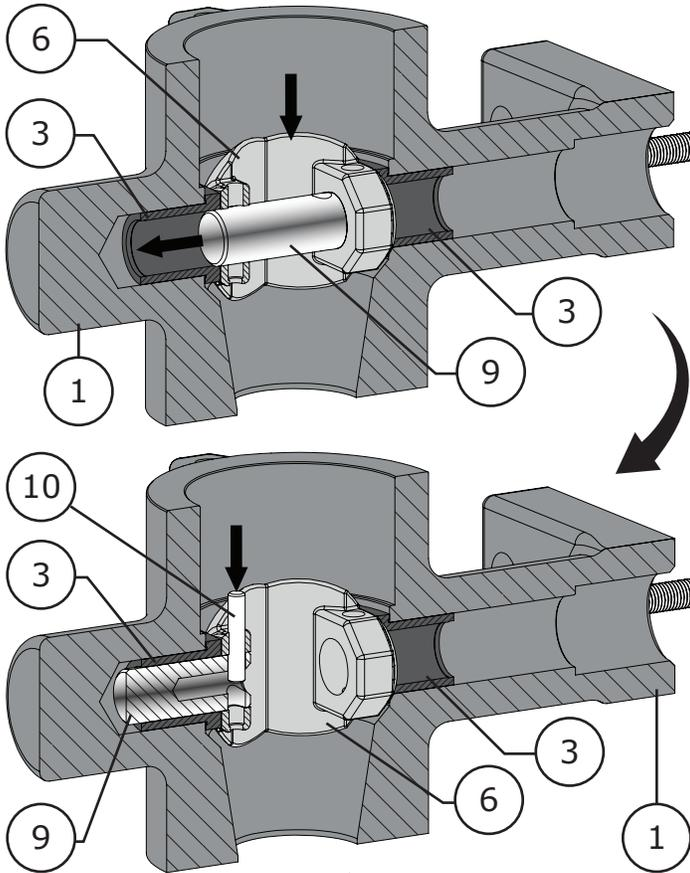

Figure 38 1 to 1-1/2 Inch Ball/Follower Shaft Installation
- 2 Insert the ball/follower shaft assembly (Keys 6 & 9) in to the valve body (Key 1) and position the ball so that the follower shaft can be pushed in to the outboard bore of the valve body. Try to align the pin holes of the follower shaft and ball, do not push the follower shaft too far in to the bore. Refer to Figure 38.